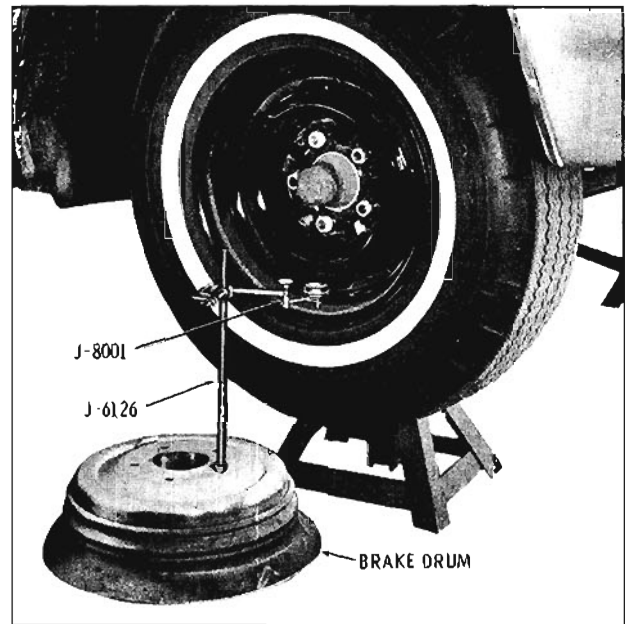

Fig. 9-10 Ball Joint Vertical Check
2. Position dial indicator as shown in Fig. 9-10.